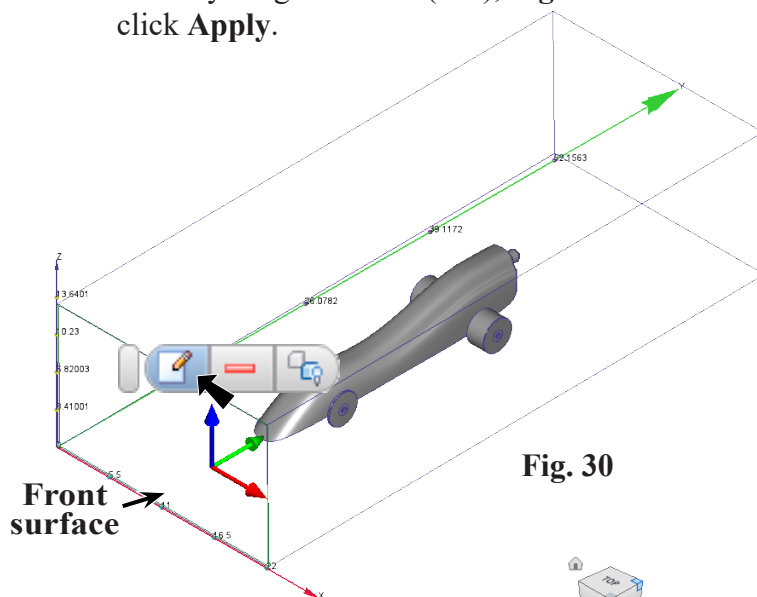

Fig. 30
Step 2. Click the **front surface of Tunnel** outline and click **Edit**  in the pop-up, Fig. 30.